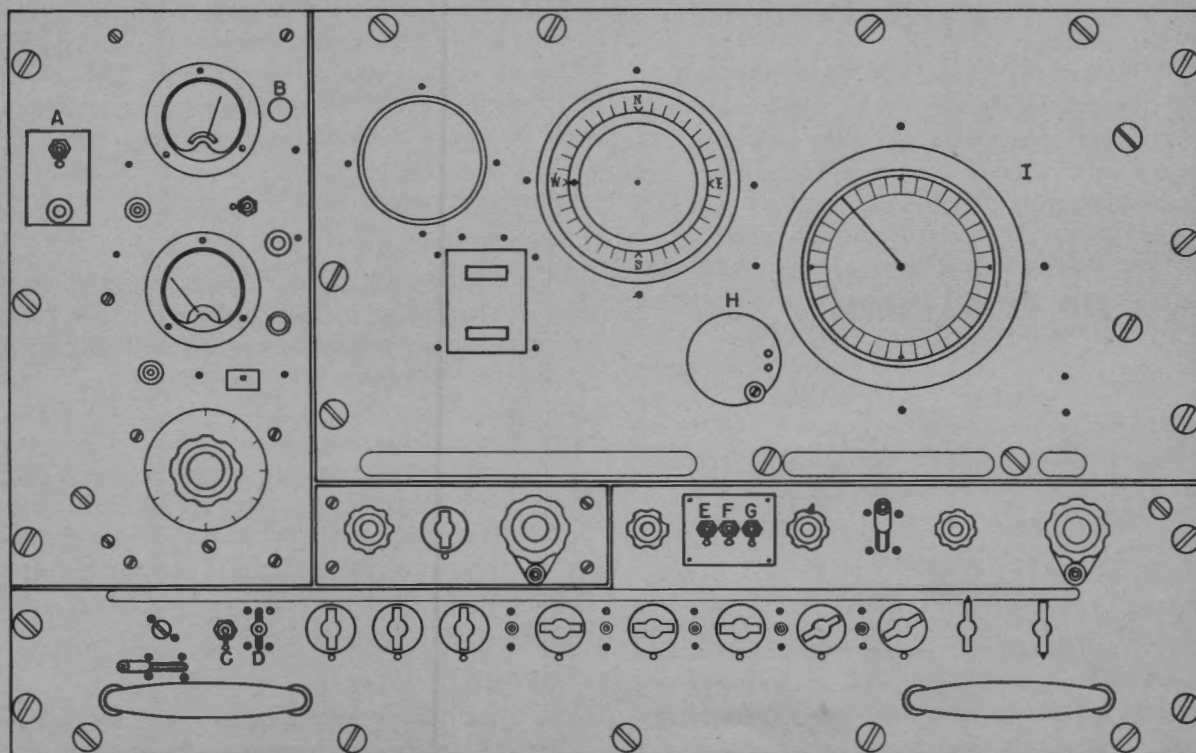

Figure 4 SG-6. Range and train indicator.
In order to take advantage of new developments in radar a major modification has been authorized for radars of the SG series. The resulting modernization of SG-1 produces the SG-1b radar. A line drawing of the range and train indicator is shown in figure 4 SG-6. Only those controls which have been added or have taken on new or additional functions are lettered and discussed in this section. See SG radar page 4-SG-2 and those following for description of all other controls. For ease in locating and identifying, controls to be discussed are lettered in figure 4 SG-6.
(3) Switch (C) turns on the range step of the A-scope and the range mark on the PPI. See sections under OPERATIONAL TECHNIQUE for discussion of taking ranges and bearings without the necessity of stopping the antenna.
(4) Switch (D) is the same IFF switch described under CONTROLS, page 4-SG-3 and labeled (W) on figure 4 SG-1. In this modification it has the added function of enabling operation of the sweep expansion control (B) described above.